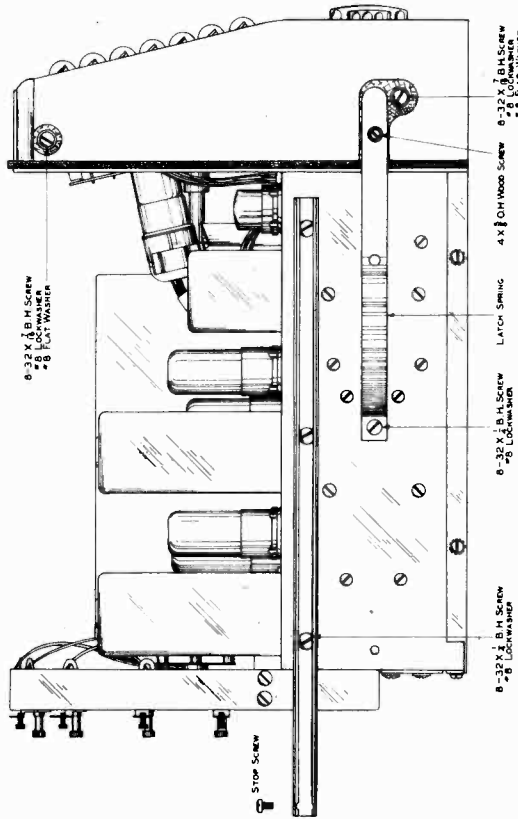

Figure 1 800-B Radio Receiver - Side View
The remote control keyboard is provided in order that the Model 800-BR Radio-Phonograph may be controlled from remote points in the same room or in other rooms of the house. It is provided with 16 pushbuttons, 12 of which are used to tune in stations exactly the same as the push-buttons on the front panel of the receiver. Two buttons are used to turn the receiver ON and OFF and the two remaining pushbuttons are used to raise and lower the volume of the receiver as shown in Figure 1.
3. Mount the slide rails on the sides of the receiver chassis as shown in Figure 1 using the hardware provided for this purpose. Remove the stop screws from the ends of the rails as shown.
1. The front panel is mounted on the chassis as shown in Figure 1 using the hardware furnished.
2. Next mount the latch springs on the sides of the receiver chassis as shown in Figure 1. The retaining screw which is used to center the latch spring in the slot on the side of the panel should be screwed in far enough to bring the latch spring flush with the outside of the panel. It may be necessary to adjust the screw on the latch spring further in to make the latch catch smoothly when the set is pulled out. However, DO NOT leave the latch adjustment screws sticking out beyond the sides of the panel as they may catch in the latch spring plate when the set is pushed into the cabinet.